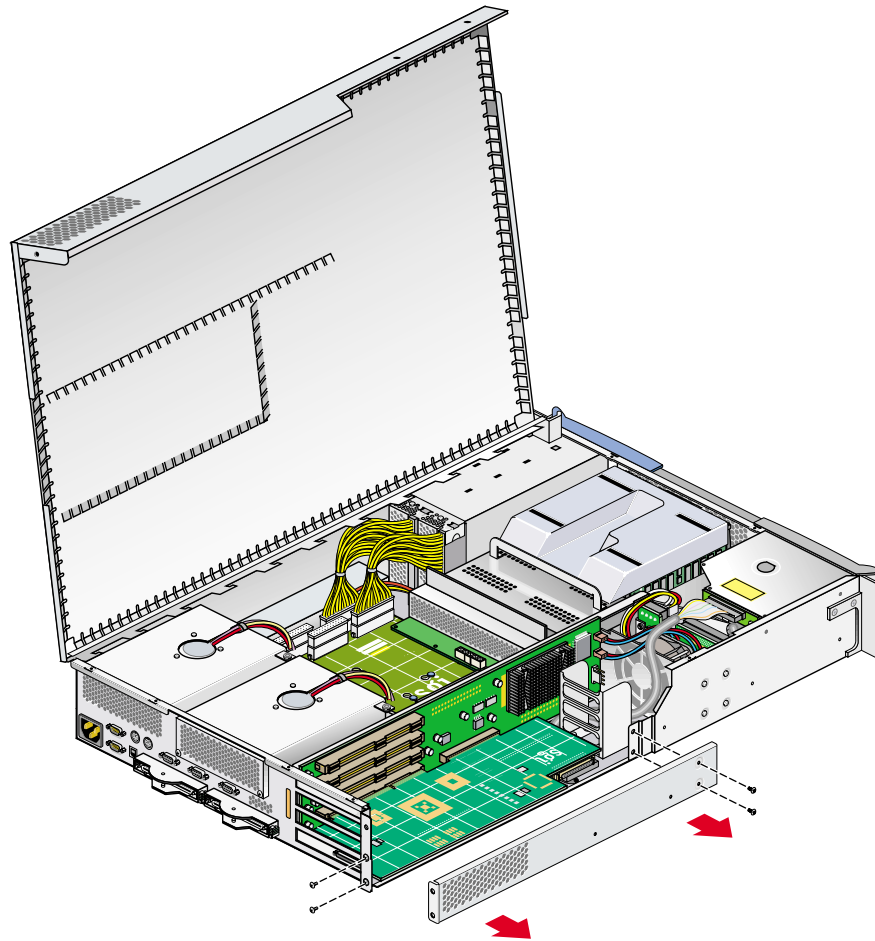

Figure 6-4 Removing the Lower PCI/PCI-X Support Bracket
8. If you are installing a card in one of the two lowermost card slots, you must also remove the lower PCI/PCI-X support bracket that covers the two lowermost slots, as shown in Figure 6-4, by removing the four Phillips screws.